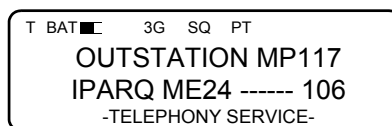

Figure 3-57. CTI Linked Screen
- When the 3G radio mode circuit setup is successful, a tone is heard in the handsets of the outstation and the basestation radios. The KDU displays linked screen for the duration of the phone call, unless a higher priority status message such as **CALL COMPLETE** or **WARNING: HIGH VSWR** is displayed. See Figure 3-57.
When the basestation's CTI net call type is set to broadcast, the outstation operator will not see a 3G call status screen. Instead, when the 3G radio mode circuit setup is successful, a tone is heard in the handsets of the outstation and the basestation radios. The KDU displays the screen in Figure 3-57.
When the basestation's CTI net call type is set to role call, the outstation operator will not see the 3G call status screens while the radios set up the connection. When a response to the call is received from another net member, the text **RESPONSE FROM** and the name of the responding station will be displayed on the bottom line of the KDU. A tone is heard in the handsets of the outstation and the basestation radios. The KDU displays the screen in Figure 3-57.